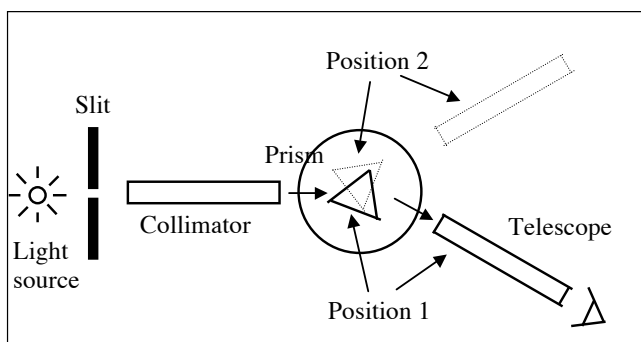

Figure 3 Measuring angle of minimum deviation
- Rotate the prism table to a position like position 1 in figure 3, where you judge the light to be passing roughly symmetrically through it. Use your naked eye to see the image of the slit — the yellow spectral lines of sodium will be prominent but you will also see fainter lines of other colours. Using the telescope, view the yellow lines (you may be able to resolve the two lines — if so choose the one of shorter wavelength, which is deviated more than the other)